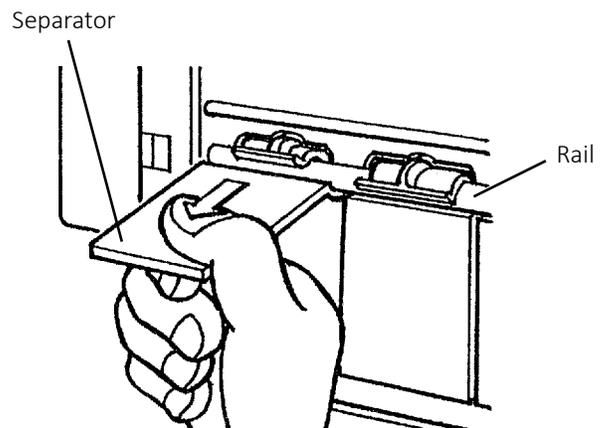

Fig. 38
- Hook each separator onto the rail, then pull it hard towards you until it locks into place. See Fig. 38.